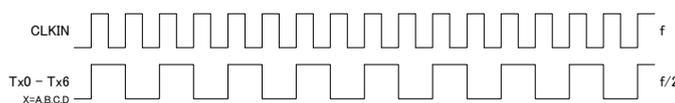

Figure 2. Worst Case Pattern
- (b) All Max. Values are at VCC=1.98V, Ta=85°C. The Worst Case Pattern (Figure 2.) produces maximum switching frequency for all the LVDS outputs